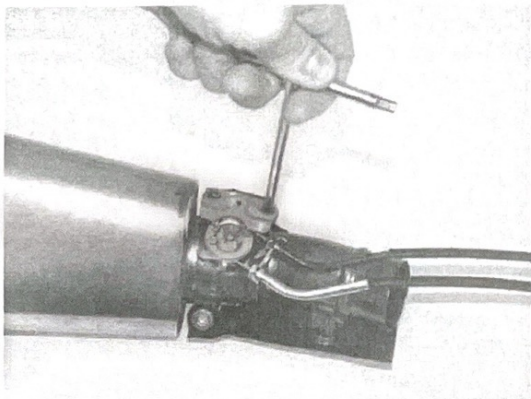

Figure 32
6. **For street legal SLIP-ON (with exhaust valve) only:** remove the valve guard and both cables from the stock exhaust valve (Figure 32, 33, 34). Reinstall the cables and valve guard onto the Akrapovic exhaust valve and stock servo motor in the reverse order from the order in which they were removed (Figure 35, 36, 37, 38, 39). **CAUTION!** use additional Akrapovic washers and stock bolts for attaching the valve guard (Figure 36).